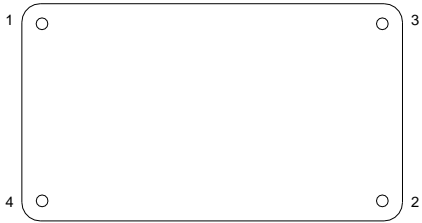

Fig. 1
3. Loosely assemble cover screws in sequence shown in figures 1 and 2 below and finger tighten screws.